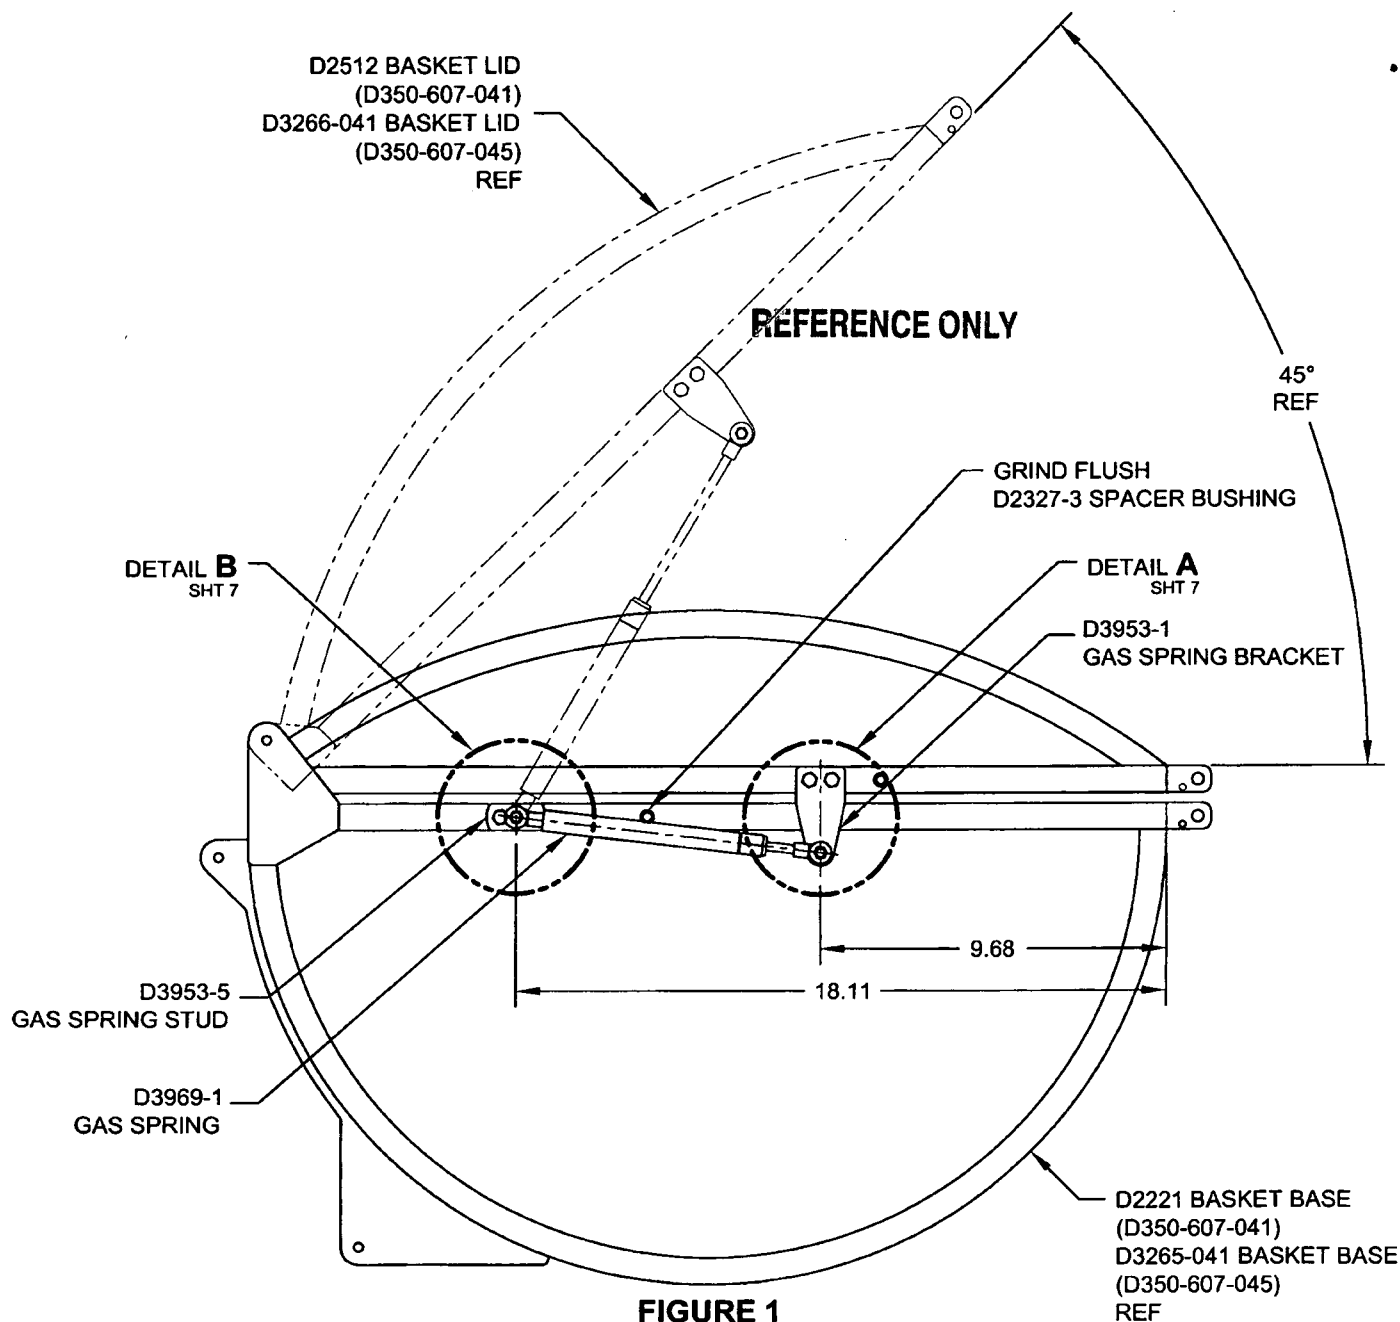

FIGURE 1
- 2) GRIND FLUSH THE D2327-3 SPACER BUSHING ON THE END OF THE BASKET WHERE THE LID OPENER IS BE INSTALLED AS SHOWN IN FIGURE 1 (IT IS PERMISSIBLE TO GRIND ALL 4 SPACERS FLUSH). TOUCH UP PAINT PER ICA-D350-607 REV. 0 SECTION 5.1 ITEM 4.
- 3) LOCATE THE D3953-1 GAS SPRING BRACKET AS SHOWN IN FIGURE 1. TRIM STEEL MESH LOCALLY AS REQUIRED. TOUCH UP PAINT PER ICA-D350-607 REV. 0 SECTION 5.1 ITEM 4. TRANSFER MARK AND DRILL 2X Ø0.194 HOLES THRU THE BASKET LID SQUARE TUBE STRUCTURE AS SHOWN IN DETAIL A. INSTALL THE D3953-1 GAS SPRING BRACKET & D3953-13 GAS SPRING SPACER USING 2X AN3C16A BOLT, 2X NAS1149C0332R WASHER & 2X MS21043-3 NUT AS SHOWN IN VIEW E-E.
- 4) LOCATE THE D3953-5 GAS SPRING STUD AS SHOWN IN FIGURE 1. TRIM STEEL MESH LOCALLY AS REQUIRED. TOUCH UP PAINT PER ICA-D350-607 REV. 0 SECTION 5.1 ITEM 4. TRANSFER MARK AND DRILL 2X Ø0.194 HOLES THRU THE BASKET BASE SQUARE TUBE STRUCTURE AS SHOWN IN DETAIL B. FASTEN D3953-5 IAW VIEW F-F USING 2X AN3C11A BOLT, 2X NAS1149C0332R WASHER & 2X MS21043-3 NUT.
- 2) GRIND FLUSH THE D2327-3 SPACER BUSHING ON BOTH ENDS OF THE BASKET AS SHOWN IN FIGURE 1 (IT IS PERMISSIBLE TO GRIND ALL 4 SPACERS FLUSH). TOUCH UP PAINT PER ICA-D350-607 REV. 0 SECTION 5.1 ITEM 4.